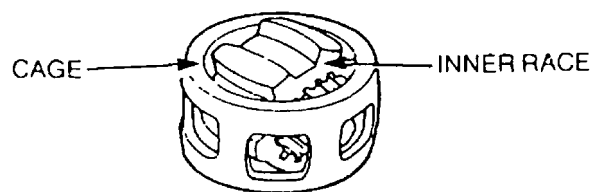

Figure 107 Inner Race Removal
- j. Remove the race (Figure 107).
- b. Insert the race (Figure 107).